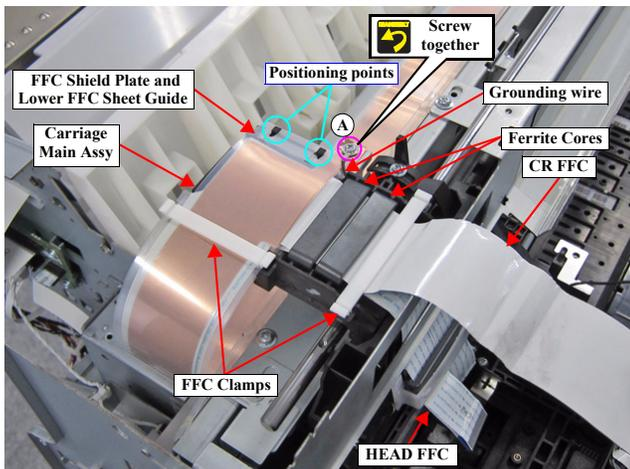

Figure 3-62. Removing the HEAD FFC (Top of the CR UNIT)
- Pay attention to the positioning points (See Figure 3-62).